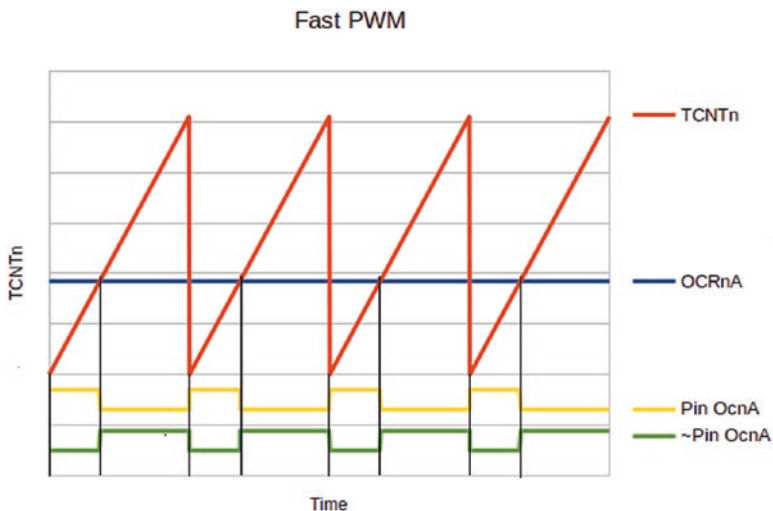

Figure 8-3. 8-bit Fast PWM with TOP at 255
This PWM mode is called “single slope” as a graph of TCNTn’s value would slope upward and then fall immediately back down to zero like a saw tooth. Figure 8-3 shows the slope of the count in TCNTn as it rises and resets to zero.
Figure 8-3 shows the details of Fast PWM with TOP fixed at 255 which is mode 3 for Timer/counters 0 and 2 or mode 5 for Timer/counter 1.
- The jagged line in Figure 8-3 is the value in TCNTn as it rises from zero (BOTTOM) to TOP which, in the case of an Arduino board, is set to 255 although this can be changed as per the data sheet. After 255, the value drops to zero on the next timer/counter clock pulse.